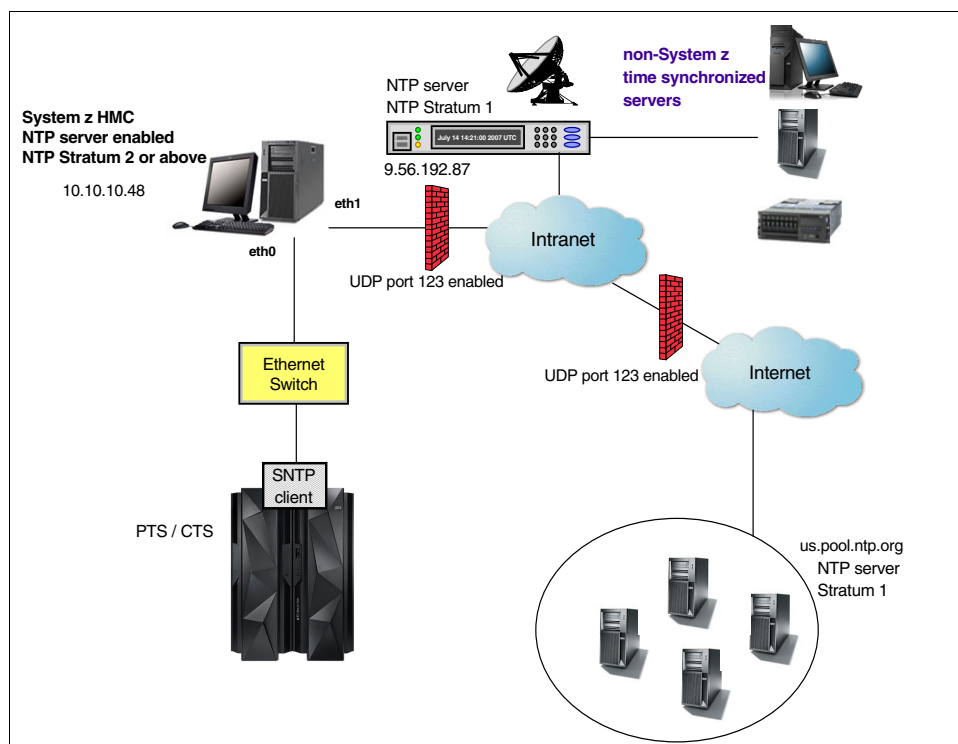
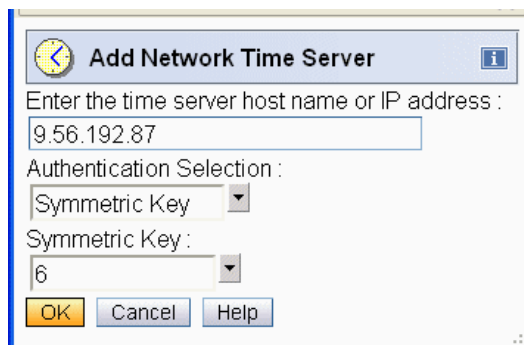
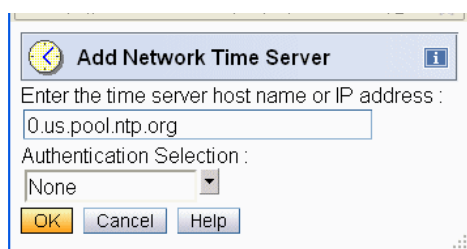

Figure 1-1 Example configuration - NTP server on HMC
Figure 1-13 NTP server on the corporate network to be accessed by the HMC
Figure 1-16 Add an Internet - network time server
The Simple Network Time Protocol (SNTP) client running on the Support Element can be connected to one HMC network adapter (eth0), as shown in Figure 1-1. The other HMC network adapter (eth1) is connected to the corporate network. Configuring an NTP server on the HMC can also be considered as a backup solution to provide NTP server redundancy. Note that the NTP server configured on the HMC is not capable of providing a pulse per second output.
2. The server host name or the IP address of a known NTP server must be entered in this window. You can define an NTP server that is available on the corporate network (9.56.192.87, as shown in Figure 1-1 on page 6). Figure 1-13 shows the IP address of a Stratum 1 NTP server on the corporate network.
6. As shown in Figure 1-1 on page 6, you can also define an NTP source that is available through the Internet. From the **Select Action** menu on the Customize Console Date and Time window click **Add Server** to bring up a new window (Figure 1-16). The web address of the NTP server needs to be entered here. There is no authentication that can be used, and the Authentication Selection is therefore set to **None**.